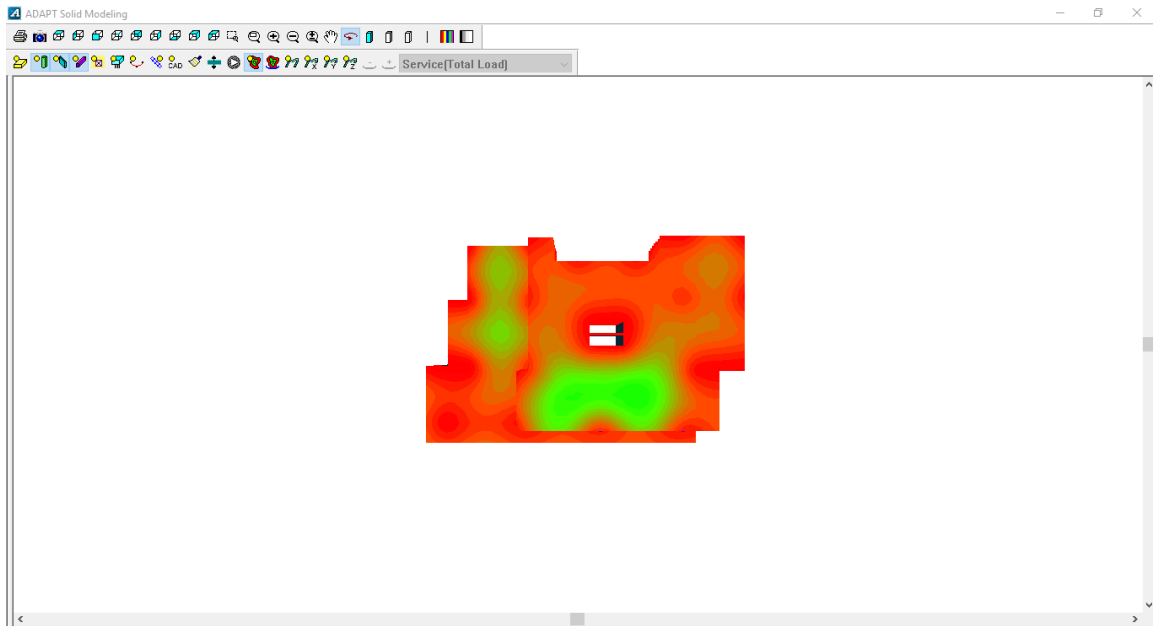

Figure 6-9
- Click on the *View Model*  icon on the **Bottom Quick Access Toolbar** to bring up the *ADAPT Solid Modeling* window as shown in **FIGURE 6-9**.